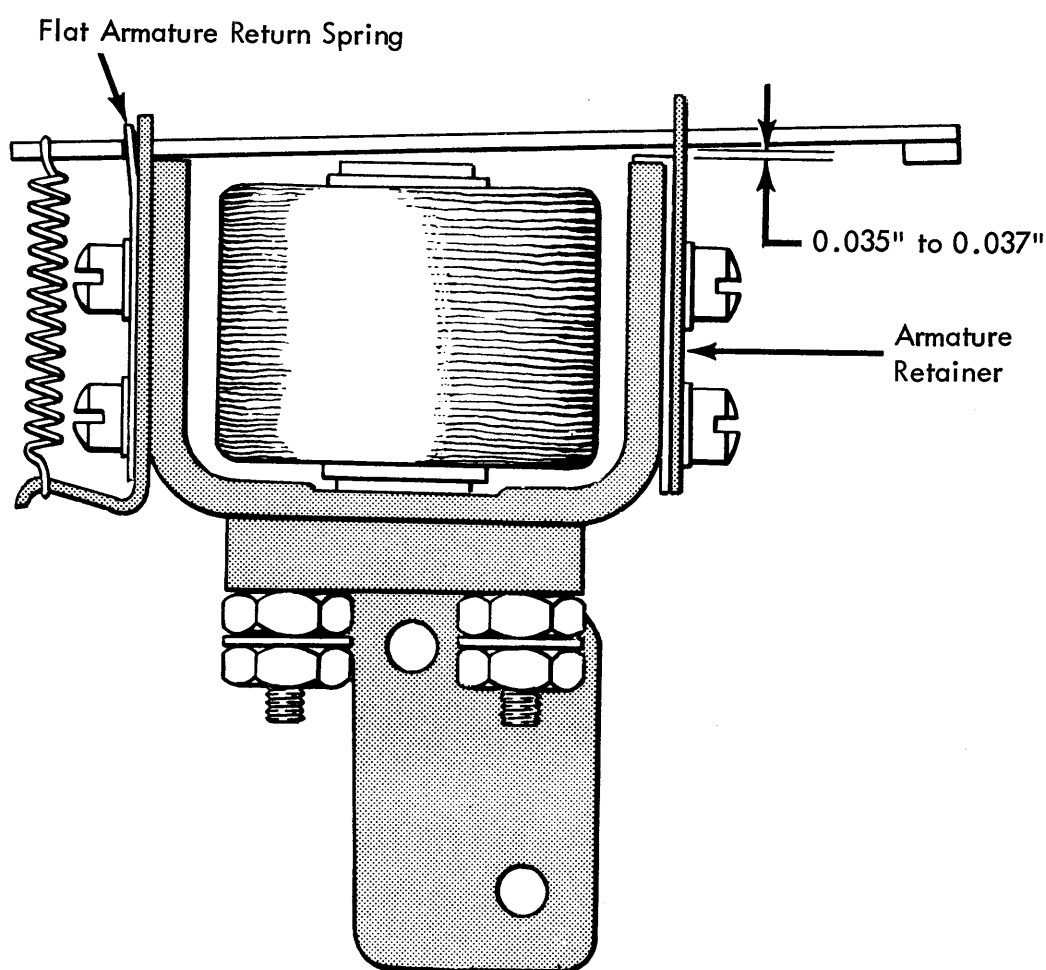

Figure 4-52. Print Suppression Magnet Adjustment
1. Armature should be flat within 0.005 inch (Figure 4-52).